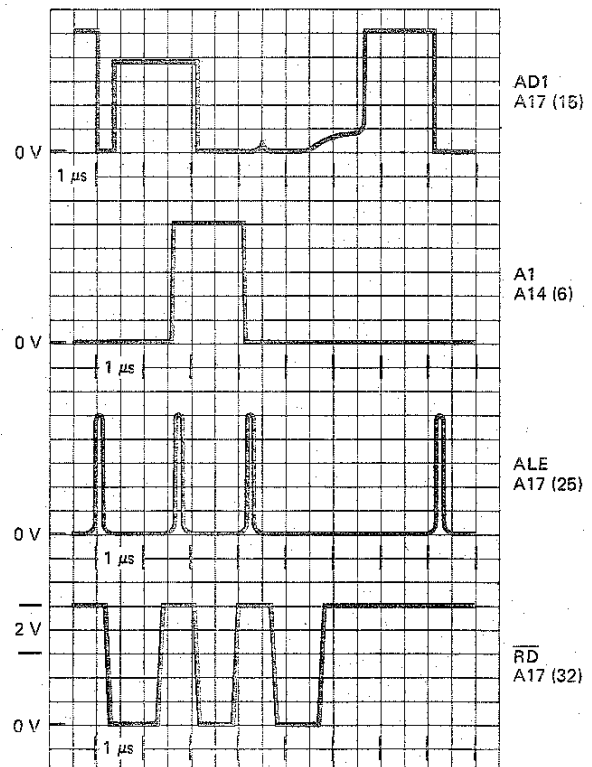

FIGURE 15-1.
- See Figure 15-1.
- AD1 enters A14(7) and A1 exits A14(6).